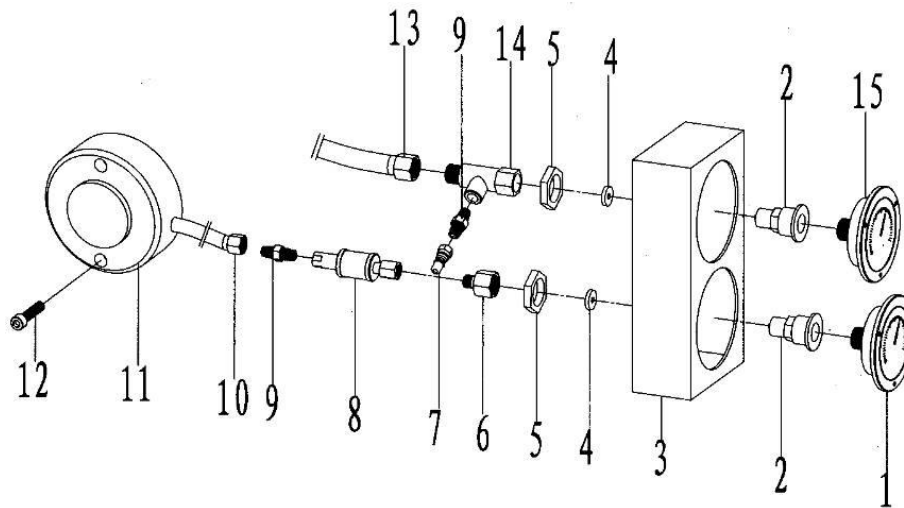

Fig 12
7.12 Torque test assembly (Fig 12, Table 12)